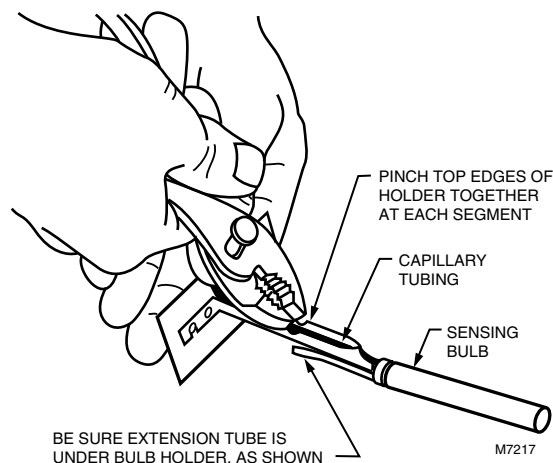

Fig. 9. Installing capillary in 107324A and 131524A Bulb Holders.
3. Mount the bulb and capillary on the holder. See Fig. 9 through 11.
Use these bulb holders to mount one bulb in a duct or plenum. See Fig. 9 and 10. If necessary, shorten holders by using pliers to flex the channel at one of the notches until it separates.